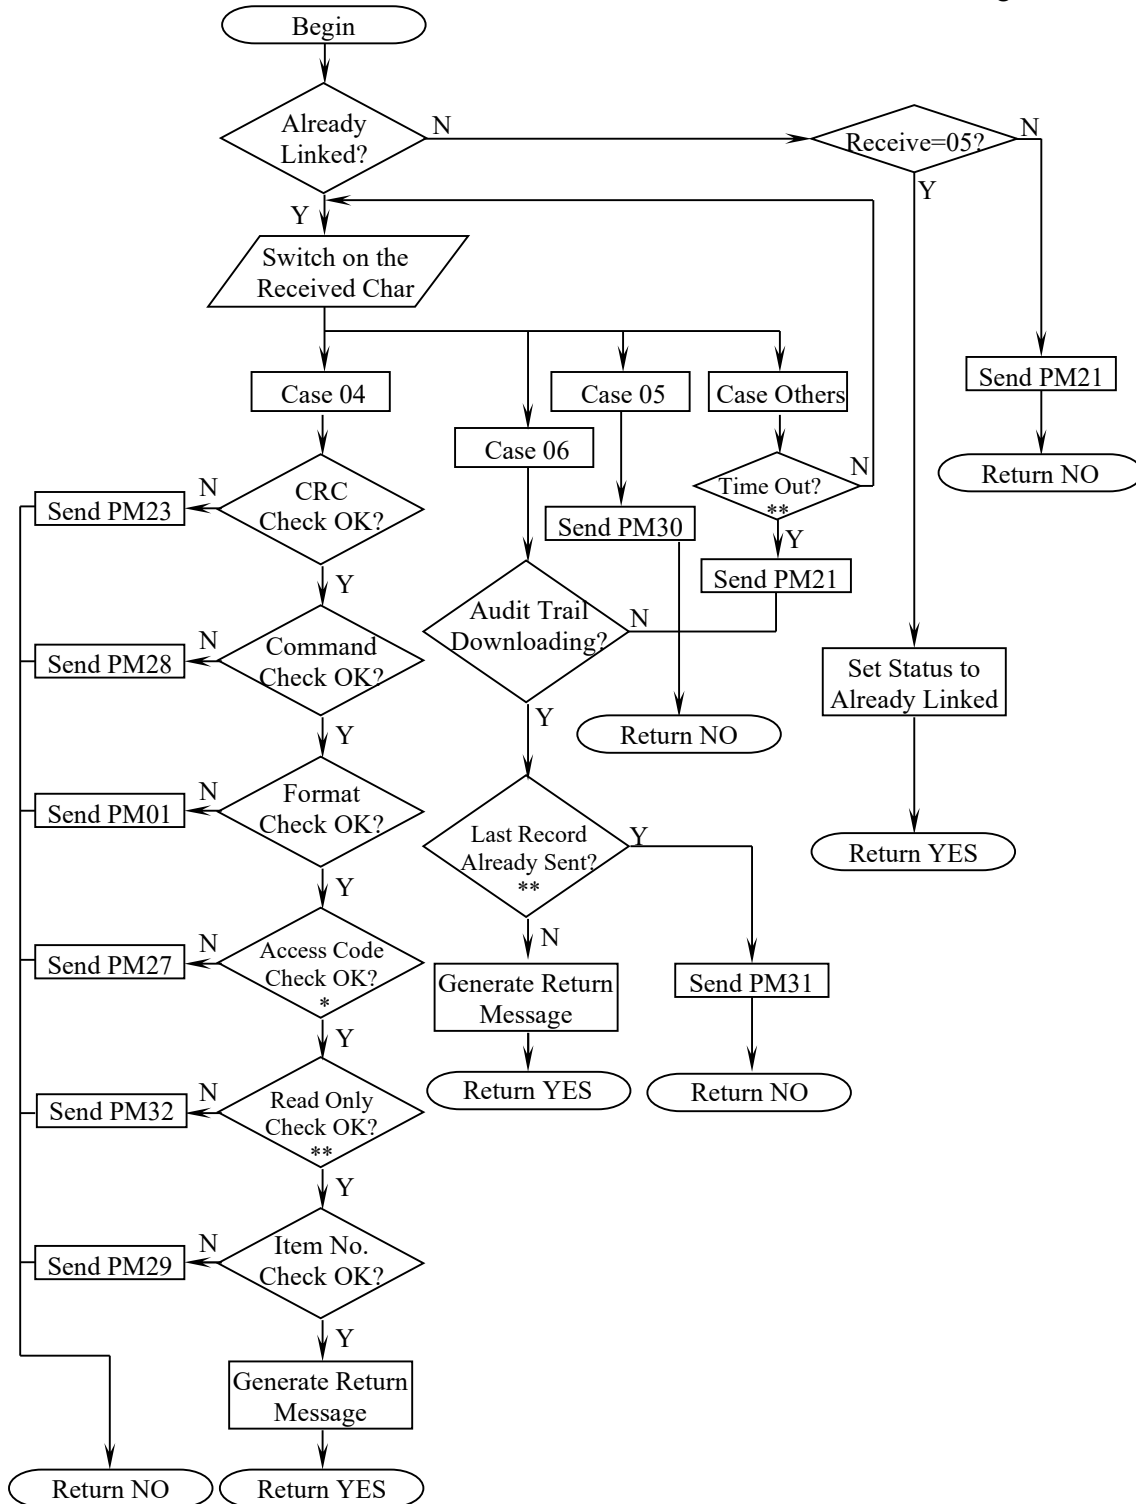

Figure 8-2. Receive OK Function Block of the ROMET Unit
The flow chart of Receive OK function block of the ROMET Unit is shown as the figure 8-2.
- **: The current ROMET Unit does not support such kind of communication error check (according to the responding Error Message Window shown by the ROMETLink during the ROMET Unit Simulation program testing, the Unit should support such kind of check). If the Unit supports all kinds of communication error checks shown in the figure 8-2, it would be more robust during communication with the ROMETLink.
When the Unit receives the first char of the communication command sent by the ROMETLink, it sets the timeout period and starts timeout counting. If the Unit cannot receive the special char (04, 05, 06 as shown in the figure 8-2) until the timeout period is expired, a Timeout Check is failure.
After pass all the above kinds of checks, the Unit generates the proper return message (including appending the calculated CRC code at the tail) based on the received command sent by the ROMETLink and returns YES from the Receive OK function block. Otherwise, the Unit sends the proper Pre-defined Message as a communication error indicator (as shown in the figure 8-2), then returns with NO.